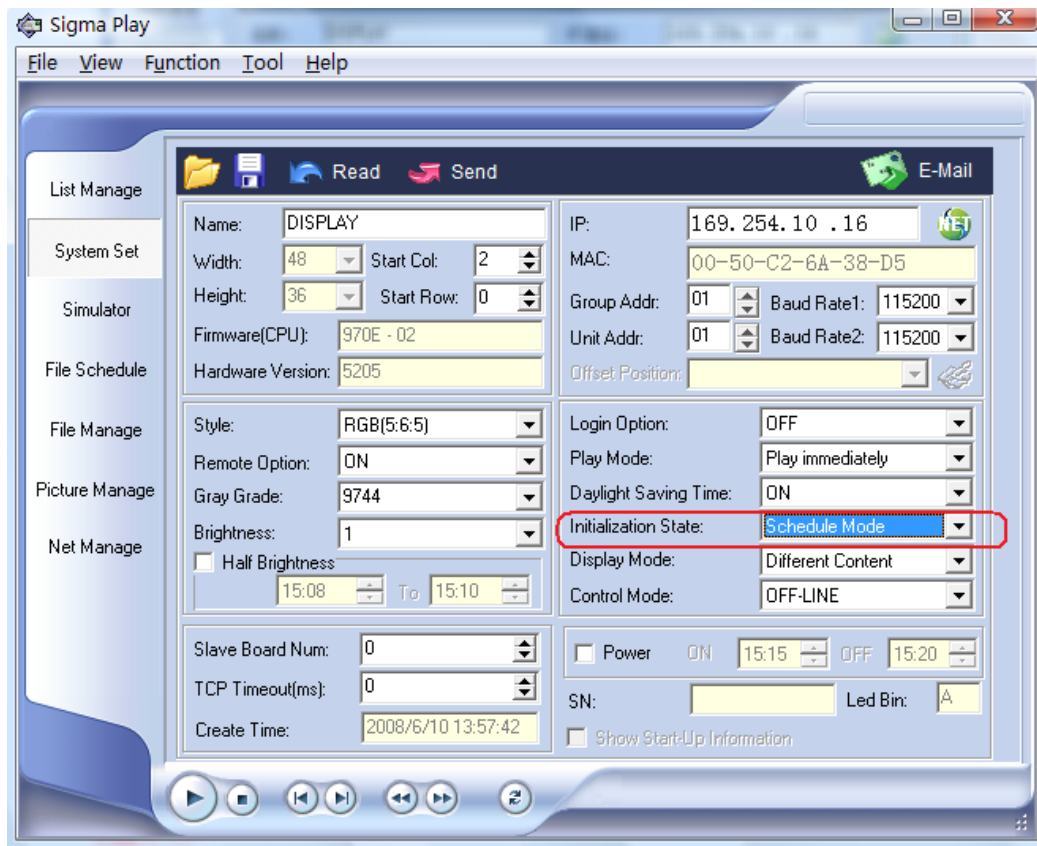

Figure 9.01
1. When you want to use Sigma software to send a file to the sign, please make sure the sign is in Schedule status (display status). If the sign is in remote control status (you can see remote control list), please press “program” key in remote to switch to Schedule status from remote control status; if the sign is in shut down status, please set the sign back to schedule status by press “ESC” button and then “Shift +F1” buttons. ;Figure 9.01